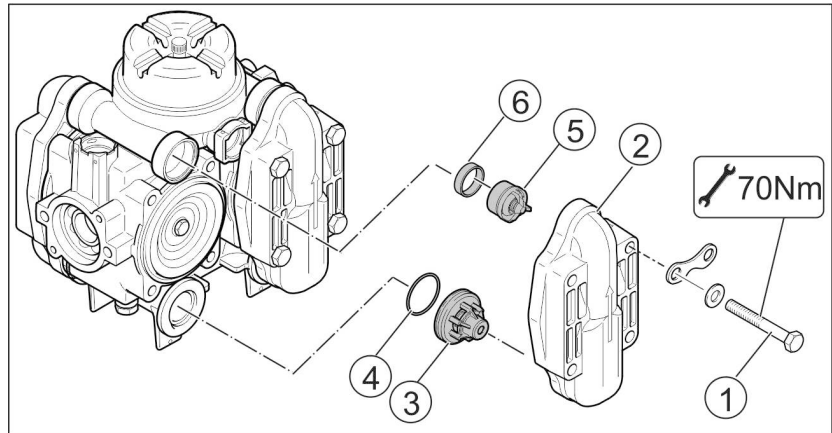

Fig. 201
1. Remove the valve (Fig. 201/1) and washer (Fig. 201/2).
2. Place a suitable tool in the groove of the cover and unscrew the cover (Fig. 201/3).
3. Check the diaphragm (Fig. 201/4) and exchange the diaphragm if it is defective.